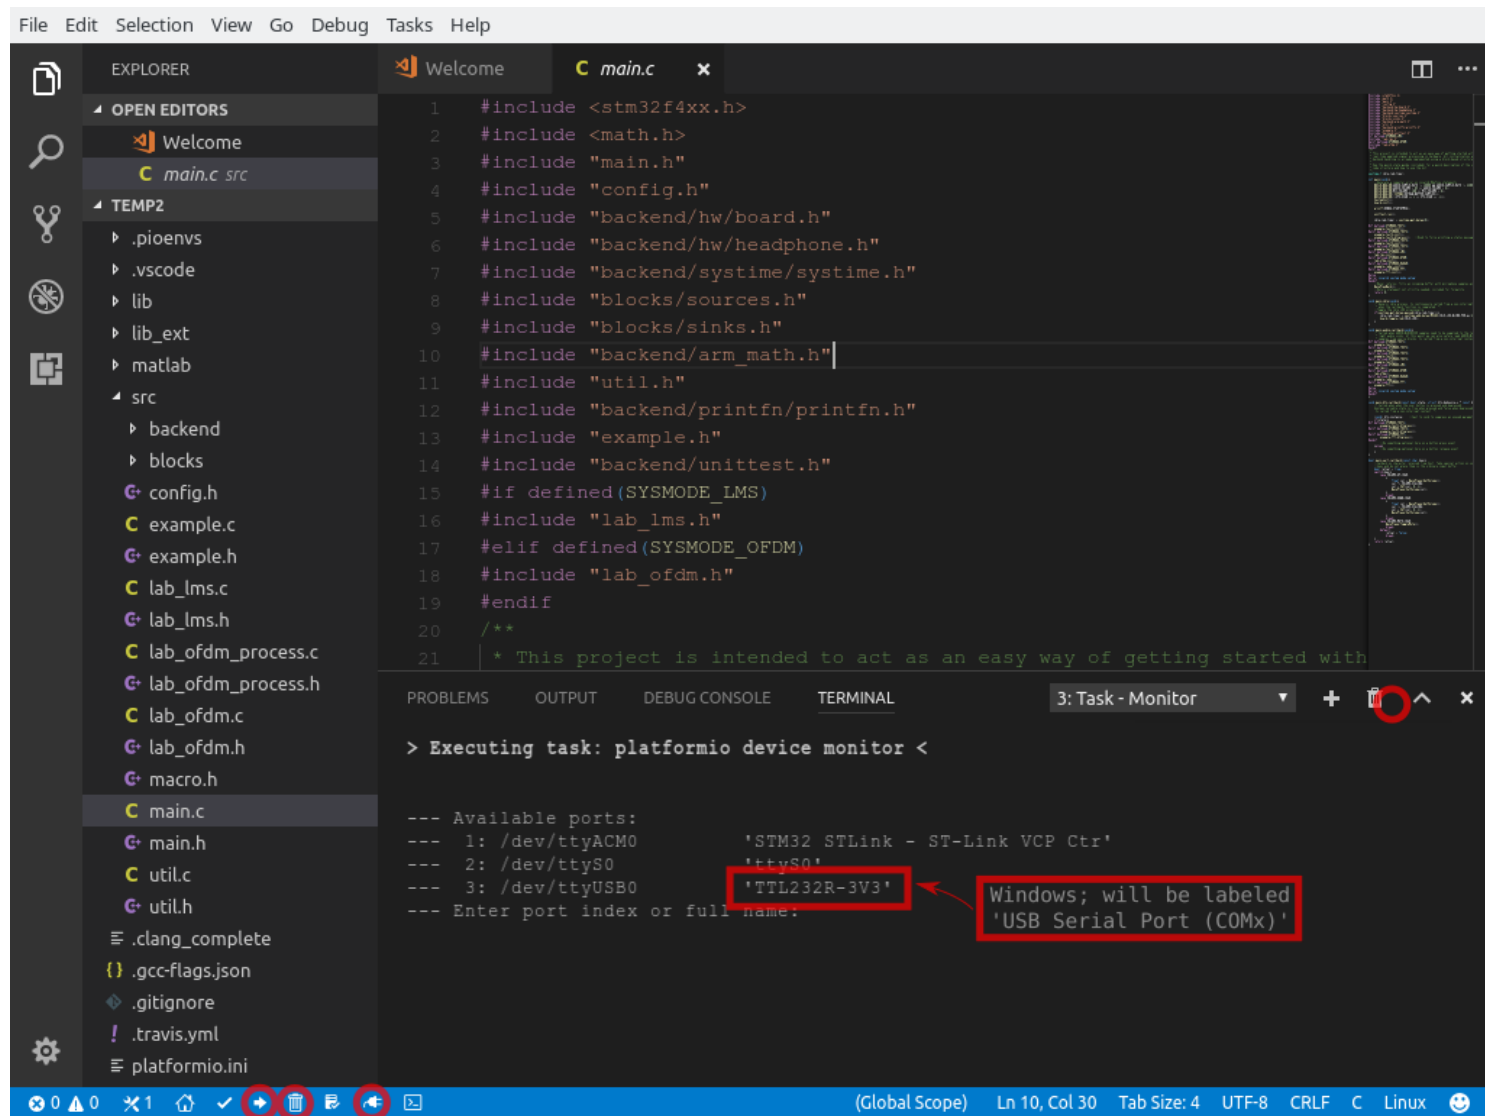

Figure 2: VSCode IDE.
2. The lower blue bar in VSCode should now contain the icons circled in Figure 2. If not, either the PlatformIO extension has not been completely installed or you have not opened the correct directory.
5. Open the serial monitor, select the correct serial device (labeled `'TTL232R-3V3'` (Linux/Mac) or `'Usb Serial Port (COMx)'` (Windows)), and maximize the serial monitor window (the rightmost circled icon in Figure 2).